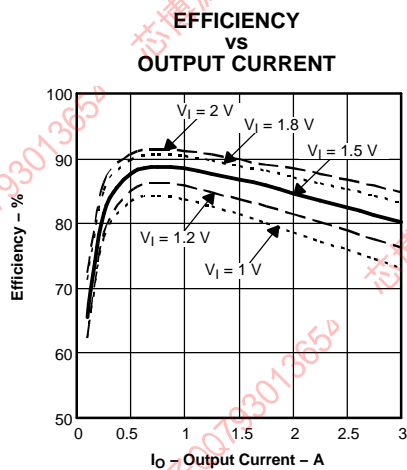
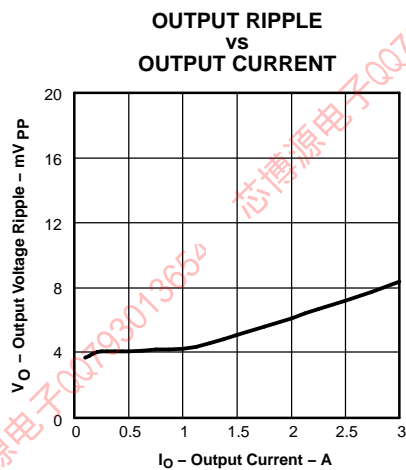
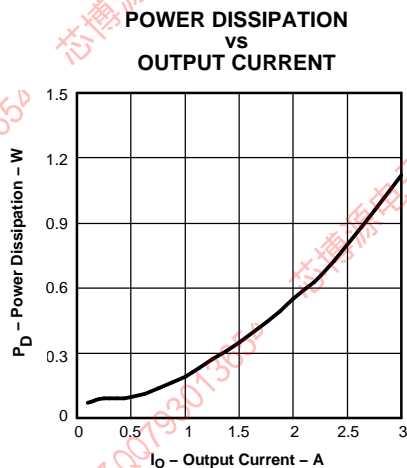

Figure 5.
Figure 6.
Figure 7.
- (3) The electrical characteristic data has been developed from actual products tested at 25°C. This data is considered typical for the converter. Applies to Figure 5, Figure 6, and Figure 7.